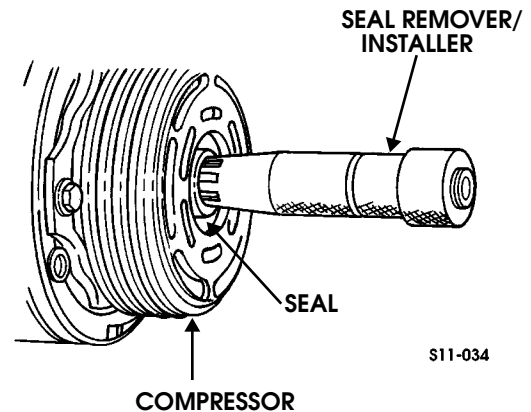

Figure 11-65: Seal Remover
- Fully engage the knurled tangs of seal remover/installer into recessed portion of seal by turning handle clockwise. Remove seal from the compressor with a rotary-pulling motion. Discard seal (Figure 11-65).